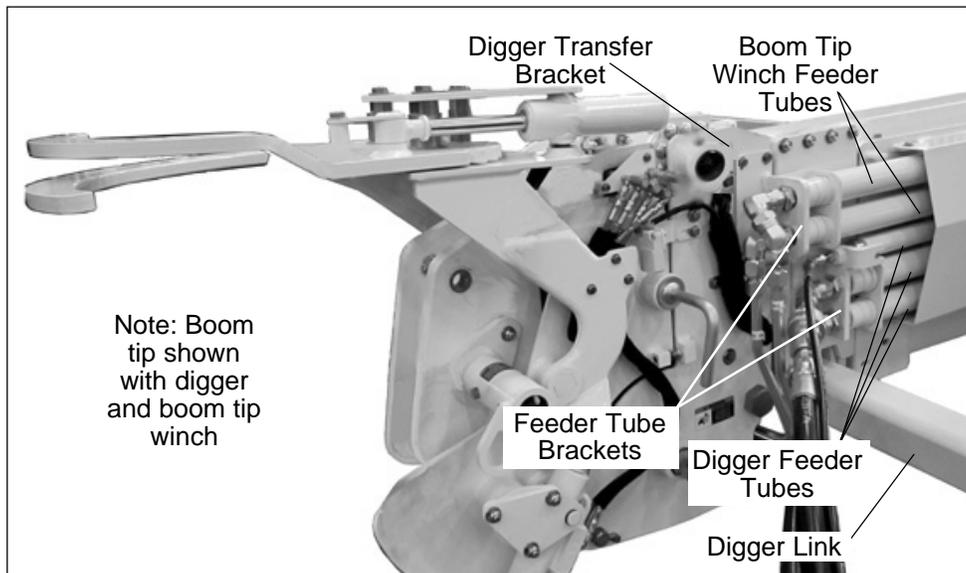

Figure 1 — Feeder Tube Bracket Location
3. Locate the feeder tube bracket attached to the digger transfer bracket (refer to Figure 1). There is also a bracket for the boom tip winch feeder tubes, if the unit is so equipped.